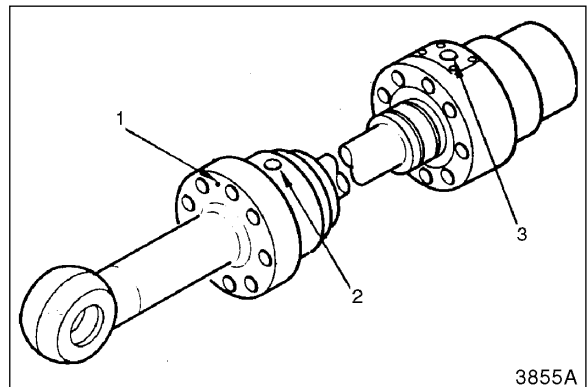

Figure 35
21. Slide rod assembly into cylinder tube. Align punch mark (1, Figure 35) with port (2) in cylinder tube. This will align hole (3) in cylinder head with port (2).